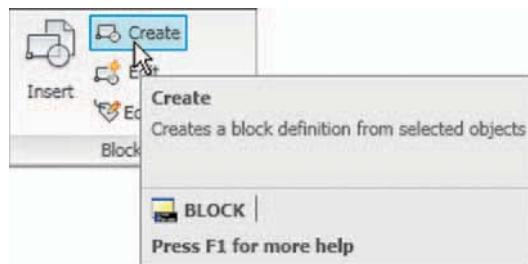
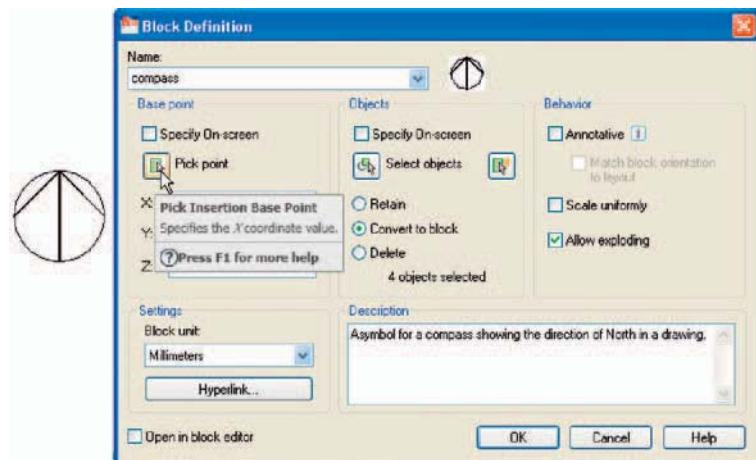

Fig. 9.2 Click Create tool icon in the Home/Block panel
Fig. 9.3 The Block Definition dialog with entries for the compass block
First example – Blocks (Fig. 9.3)
2. *Left-click the Create tool icon in the Home/Block panel (Fig. 9.2). The Block Definition dialog (Fig. 9.3) appears. To make a block from the Compass symbol drawing:*